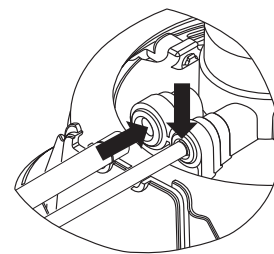

Fig. 30
7. Insert the RED tube from the Pressure Regulator Assembly into the large port on the Bracket. Insert the end of the BLUE tube marked at  $\frac{5}{8}$ " (15 mm) into the small port on the Bracket (Fig. 30).